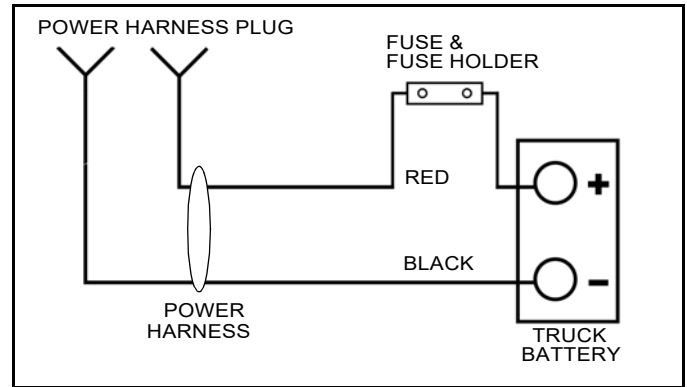

Figure 1-2
2. Mount the fuse holder near the battery using (2) #10 x 1" self-tapping screws.
3. Take the cover off of the fuse holder and remove the nuts on the studs. Place one end of the 2 ft. long power wire on one stud. (See Figure 1-2).